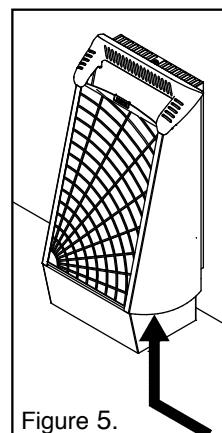

Figure 5.
- The heater's control switch is located at the side, at the lower part of the heater (see Fig. 5).